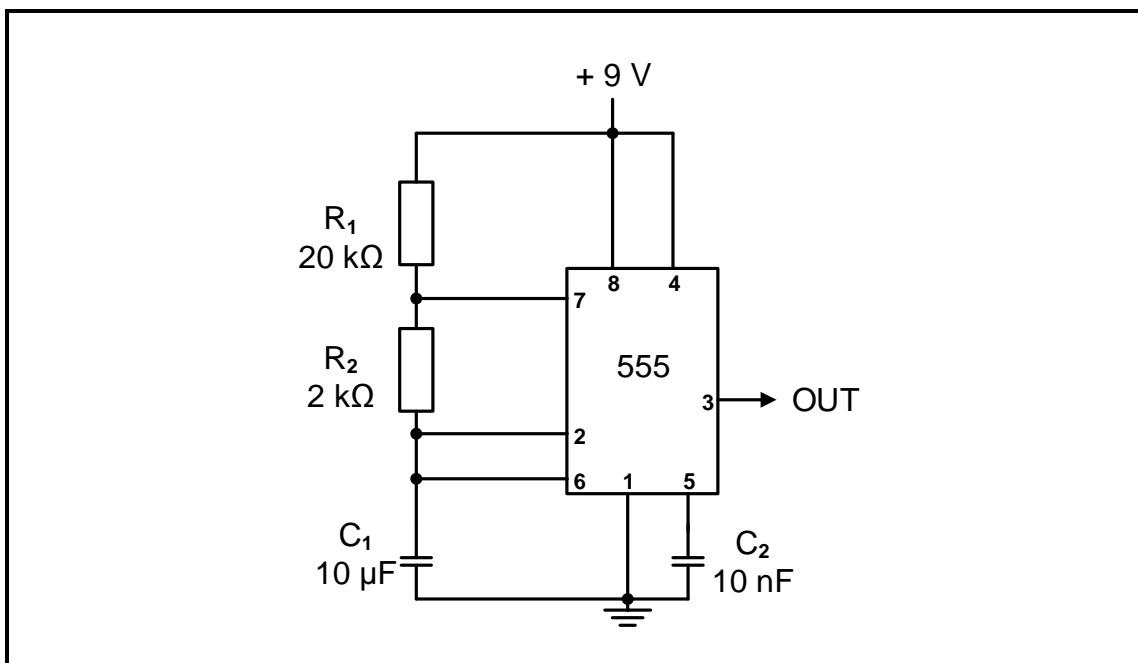

FIGURE 2.4: MULTIVIBRATOR
2.4 Refer to FIGURE 2.4 below and answer the questions that follow.
- 2.4.1 Identify the multivibrator in FIGURE 2.4 above. (1)